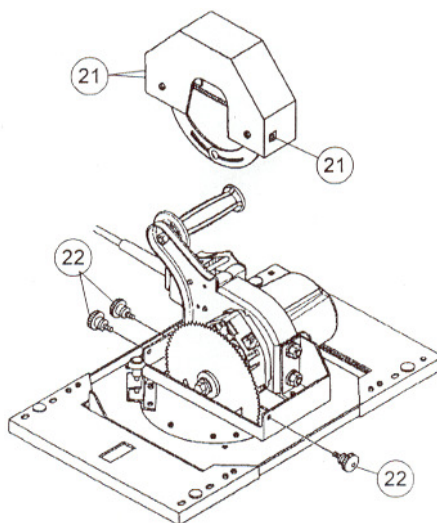

**Figure 19: Installing a Saw Blade (H Series Shown)**
3. To keep the spindle from turning while you loosen the arbor bolt (12) push the spindle lock (16) located on the under side of the saw motor. Then tighten the carriage lock.
4. Use the allen wrench provided with the saw to loosen and remove the bolt (Figure 19) counterclockwise (C4, C5, H-Series) clockwise (6400/6800).
5. Remove the outer blade flange (13), blade (15), and inner blade flange (14).